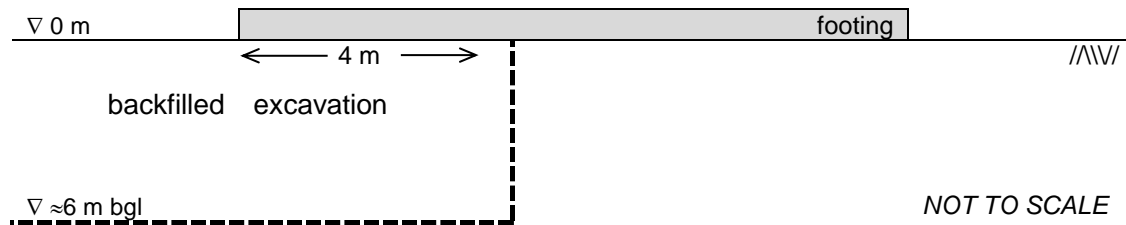

Figure 2
(2) A more thorough site investigation has revealed that part of the site is occupied by a backfilled excavation around 6 m deep. Poorly controlled backfilling has produced ground that has a stiffness that is only about 50% of the surrounding clay. The left-hand 4 m of the footing rests on this backfill, with the remainder of the footing on the original clay, Figure 2.